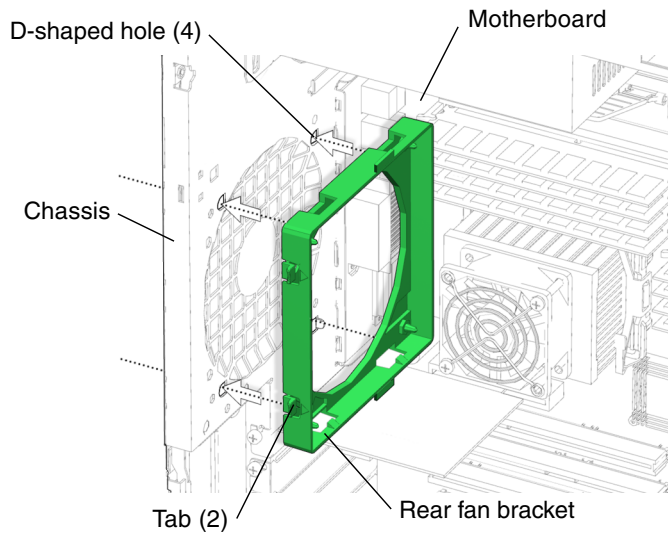

FIGURE 13-19 Installing the Rear Fan Bracket
6. Install the rear fan bracket into the workstation chassis (FIGURE 13-19).